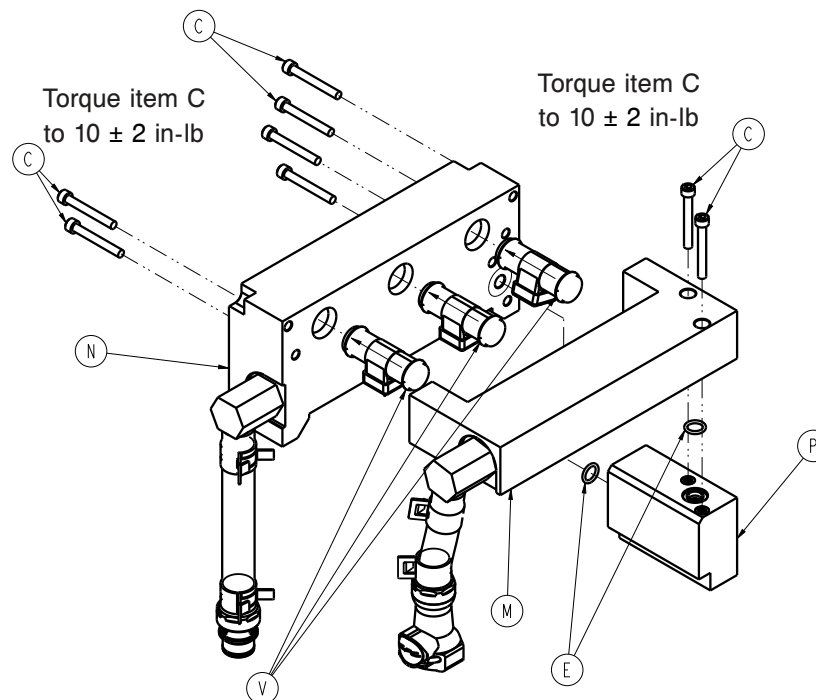

Figure 47 – Manifolds
22. Using a 5/32" hex wrench, remove the six screws (c) that secure the return manifold to the bypass and supply manifolds (Figure 47). Save the screws.